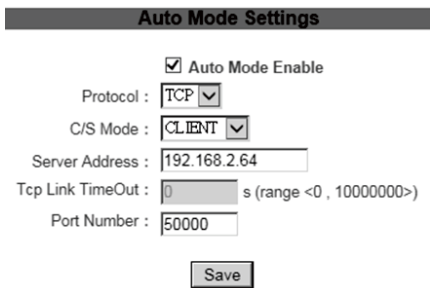

Figure 31
9. In "Auto Mode Settings" column, mark a check (default) before the "Auto Mode Enable", "Protocol" is communication protocol, choose "TCP" (default) or "UDP" to communicate; "C/S Mode" is working mode, choose "SERVER" (when you in SERVER mode) or "CLIENT" mode; "Tcp Link TimeOut" is equipment standby time disconnection, the "port number" can be set up by your preference (like 50000), click "Save" button to save the setting(Figure 31).